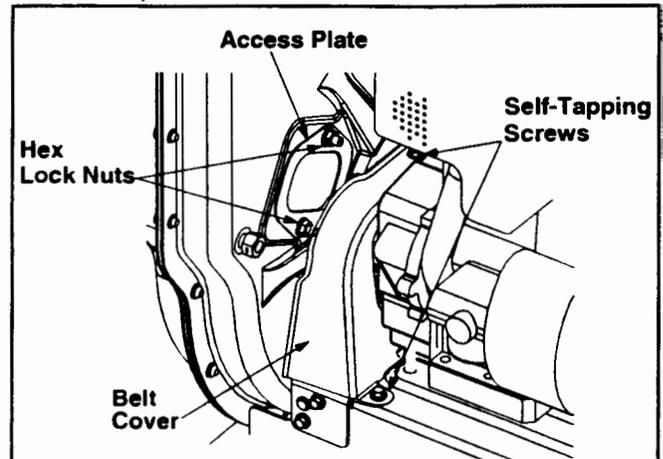

Figure 14
- Remove the plastic belt cover on the front of the engine by removing the two self-tapping screws. See Figure 14.
- Remove the access plate by removing two hex lock nuts. See Figure 14.
- Remove the plastic belt cover on the front of the engine by removing two self-tapping screws. Refer to Figure 14.